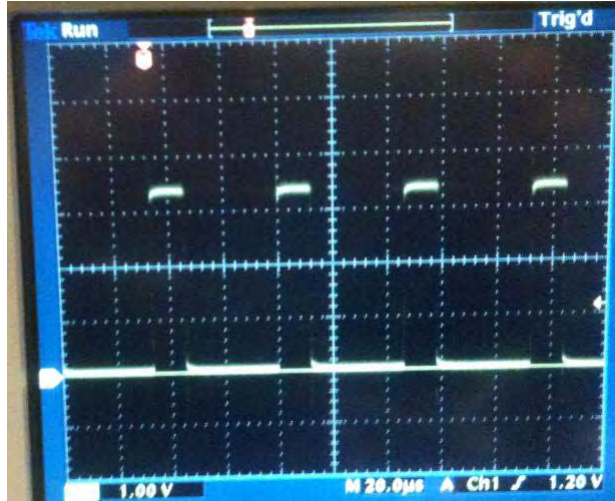

Figure 6. 25% Duty Cycle Waveform
9. Put the oscilloscope probe on R3 at TP1 to look at the PWM waveform. It should show a 25% duty cycle waveform as shown in Figure 6.